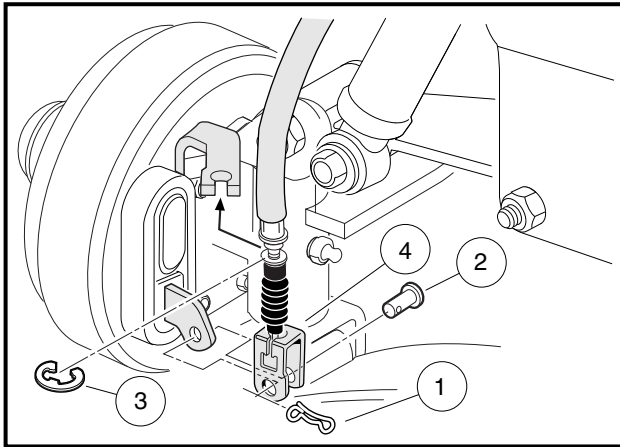

Figure 7-20 Connect Front Brake Cables
- 2.1. Remove the bow-tie pins (1), brake cable clevis pins (2), and E-clips (3). Remove the brake cables (4) from the spindle brackets (**Figure 7-20, Page 7-17**).
7. Connect the front brake cables on four-wheel brake vehicle in reverse order of disassembly (**Figure 7-20, Page 7-17**).